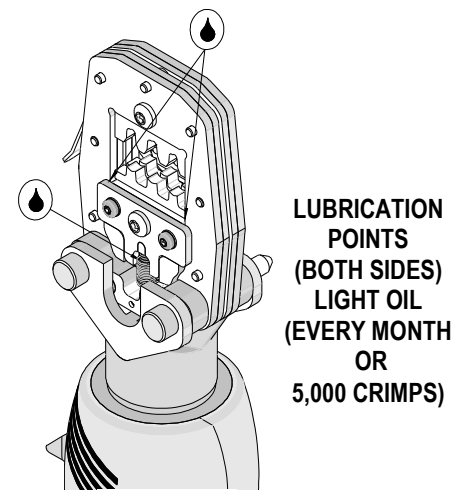

Figure 2-21
4. The use of a light oil, such as SAE 30 weight automotive oil, every 5,000 crimps, or monthly, will significantly enhance the tool life and ensure a stable calibration. Make certain all sliding surfaces in the tool head are protected with a thin coat of high quality machine oil. See Figure 2-21 for lubrication points. Do not oil excessively and wipe excess oil from the tool frame when complete.